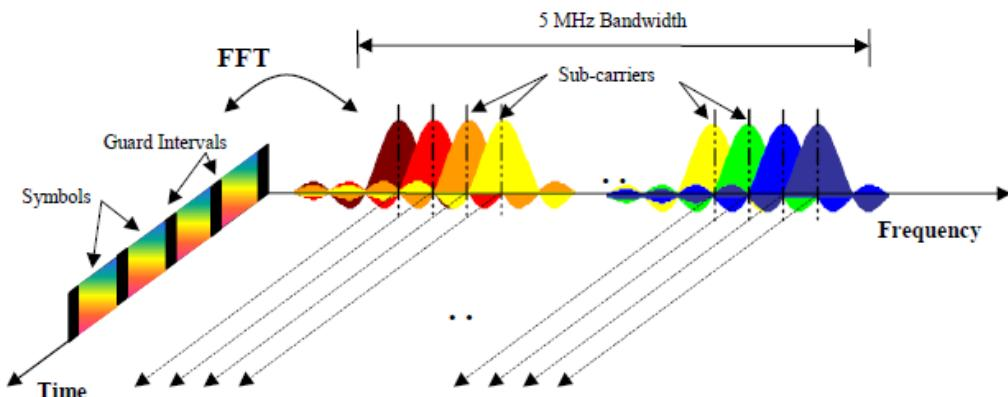

Fig. 1-1: Frequency-Time Representation of an OFDM Signal
figure 1-1 shows a representation of an OFDM signal taken from 3GPP TR 25.892 [2]. In this figure, a signal with 5 MHz bandwidth is shown, but the principle is of course the same for the other EUTRA bandwidths. Data symbols are independently modulated and transmitted over a high number of closely spaced orthogonal subcarriers. In EUTRA, downlink modulation schemes QPSK, 16QAM, and 64QAM are available.
The vector s_m is defined as the useful OFDM symbol. It is the time superposition of the N narrowband modulated subcarriers. Therefore, from a parallel stream of N sources of data, each one independently modulated, a waveform composed of N orthogonal subcarriers is obtained, with each subcarrier having the shape of a frequency sinc function (see figure 1-1).
One downlink slot consists of N_{sym}^{DL} OFDM symbols. To each symbol, a cyclic prefix (CP) is appended as guard time, compare figure 1-1. N_{sym}^{DL} depends on the cyclic prefix length. The generic frame structure with normal cyclic prefix length contains $N_{sym}^{DL} = 7$ symbols. This translates into a cyclic prefix length of $T_{CP} \approx 5.2\mu s$ for the first symbol and $T_{CP} \approx 4.7\mu s$ for the remaining 6 symbols. Additionally, an extended cyclic prefix is defined in order to cover large cell scenarios with higher delay spread and MBMS transmission. The generic frame structure with extended cyclic prefix of $T_{CP-E} \approx 16.7\mu s$ contains $N_{sym}^{DL} = 6$ OFDM symbols (subcarrier spacing 15 kHz). The generic frame structure with extended cyclic prefix